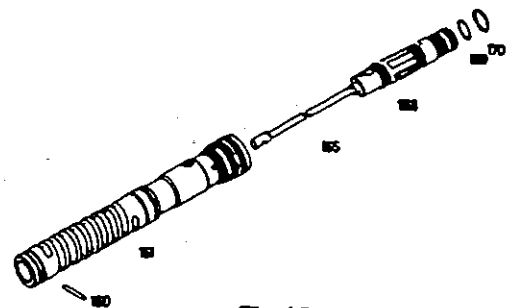

Fig. 15
8.2 Exception: Sealing ring (170) may be replaced by specially trained personnel:
Mark position of valve slide (168) and worm (161) (Fig. 15).